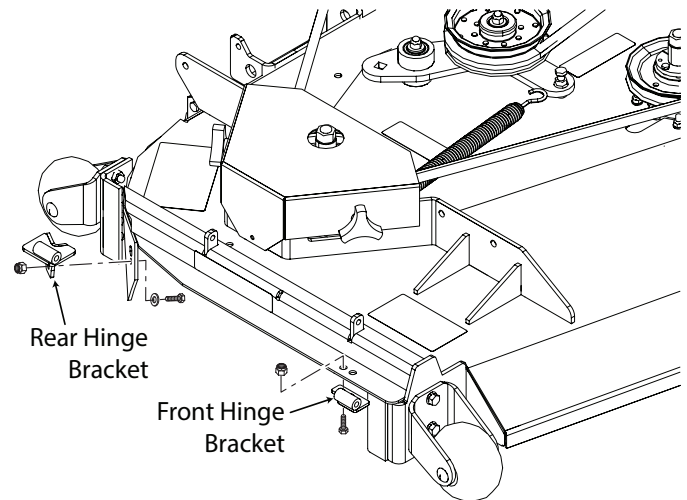

Figure 3-3. Hinge Weldment Installation
7. Install the rear hinge bracket to the cutter deck using one (1) 5/16-18 x 1" bolt, one (1) 5/16" flatwasher and one (1) 5/16-18 elastic stop nut. Do not tighten the hardware. See Figure 3-3.
16. Install the front hinge bracket to the cutter deck using two (2) 5/16-18 x 3/4" bolts and two (2) 5/16-18 elastic stop nuts. See Figure 3-3, Page 7. Do not tighten the hardware.